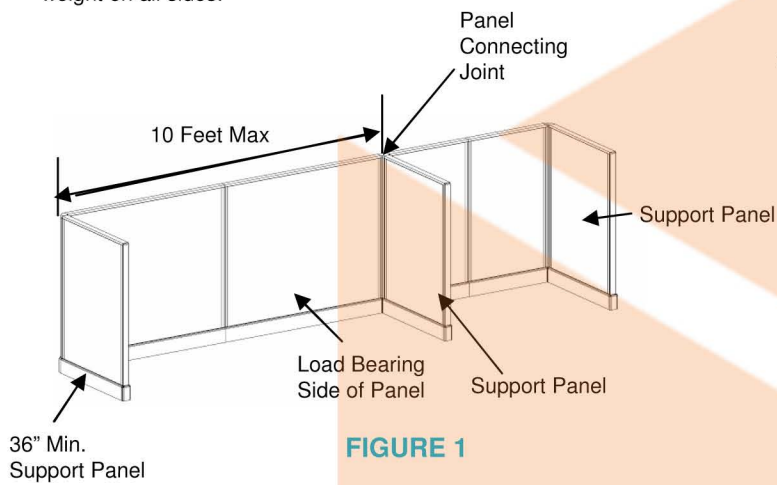

FIGURE 1
- D.** Non-loaded panel runs with support panels on one side of the panel run must have 36" minimum width support panels at the beginning and ending panels and at panel connecting joints. Spacing of support panels must be at intervals no greater than ten feet for fabric panels and eight feet for acoustical, glazed, and pass-thru panels. See figure 1.